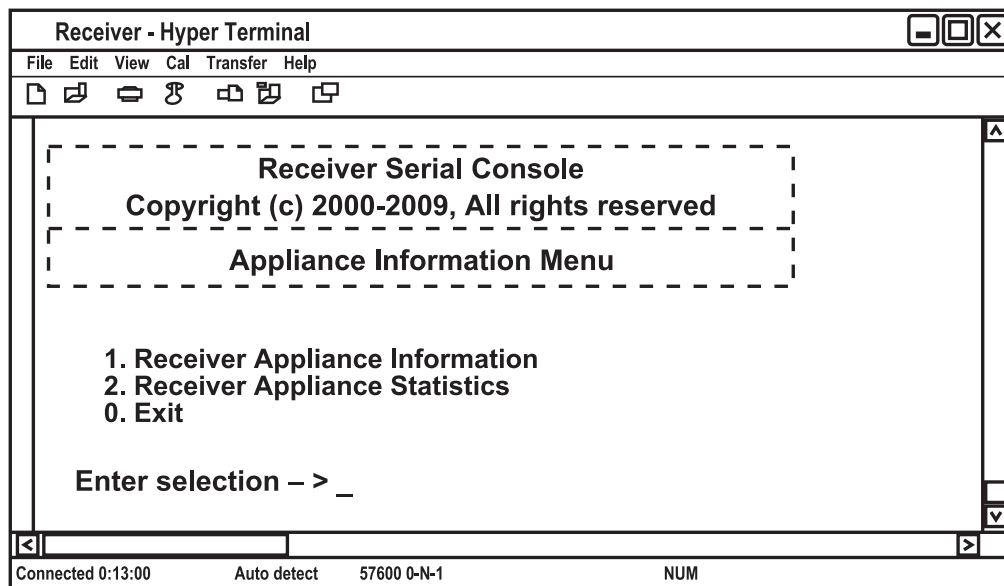

Figure 4-27. Appliance Information Menu.
2. Press "7" to access the Appliance Information menu and press "Enter." The screen in Figure 4-27 appears.